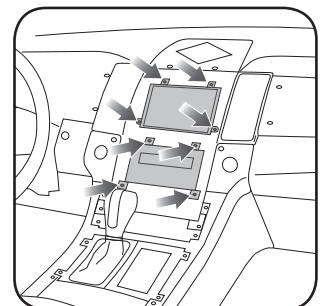

Fig. 1.8
12. Remove four (4) 7mm screws holding the radio screen. Remove the screen. (Fig. 1.8)
13. Remove four (4) 7mm screws holding the OEM radio. Remove the radio. (Fig. 1.8)